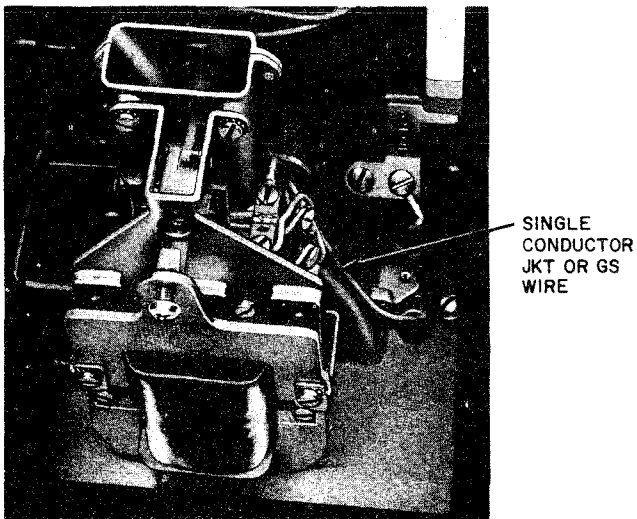

Fig. 3—Method of Grounding Coin Collector Housing Assembly, Open Type Installation
- Connect JKT lead or GS insulated wire as shown in Fig. 3.